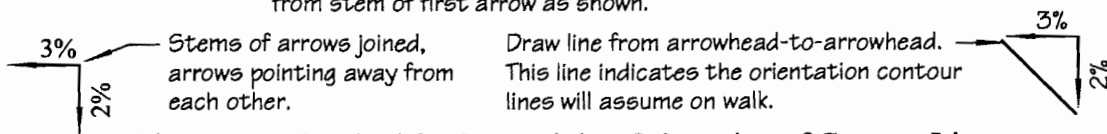

Figure 4-6a. Method for Determining Orientation of Contour Line
Step 3. Determine the orientation the contour lines will assume on the walk surface. The method shown in Figures 4-6a and 4-6b will insure that the contour is drawn with the correct orientation.